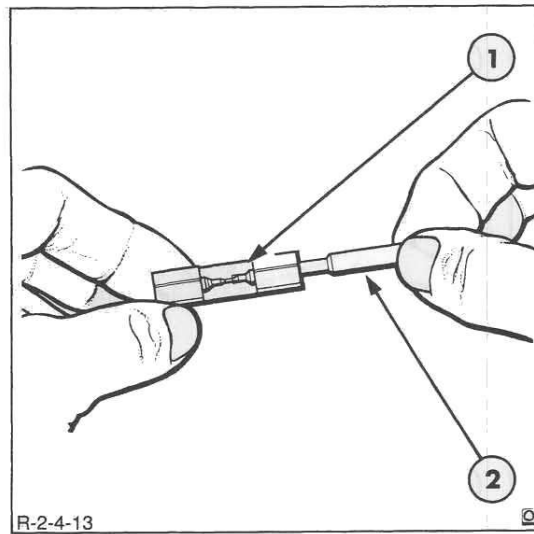

Figure 13
7. Clean the top of the needle valve using a needle valve scraper, Figure 13.